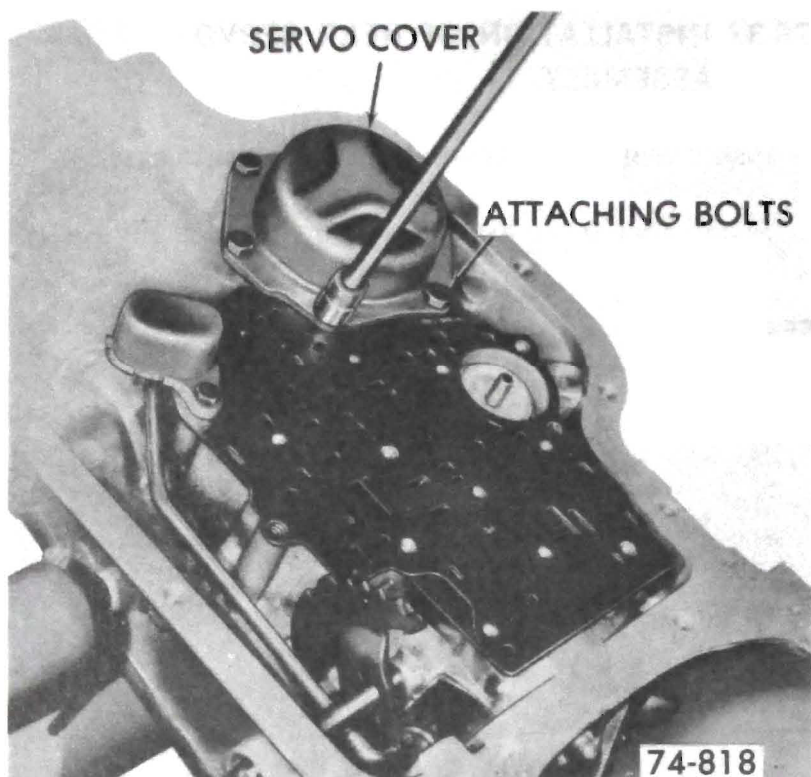

Figure 76-273
4. Install attaching bolts. Torque bolts to 15-20 lb. ft. See Figure 76-273.